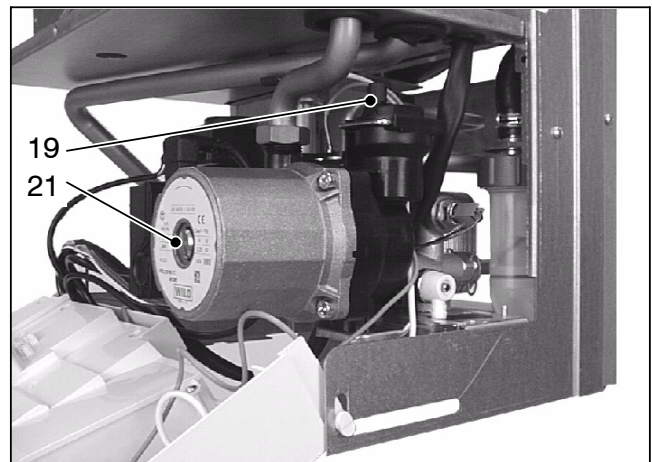

Fig. 7.2
- 3 Unscrew the cap on the automatic air purger valve 19 (Fig. 7.2) one full turn and leave open permanently.
- 6 Purge the air from the pump by unscrewing the pump plug 21 (Fig. 7.2); release the pump shaft by turning in the direction indicated by the arrow on the information plate.